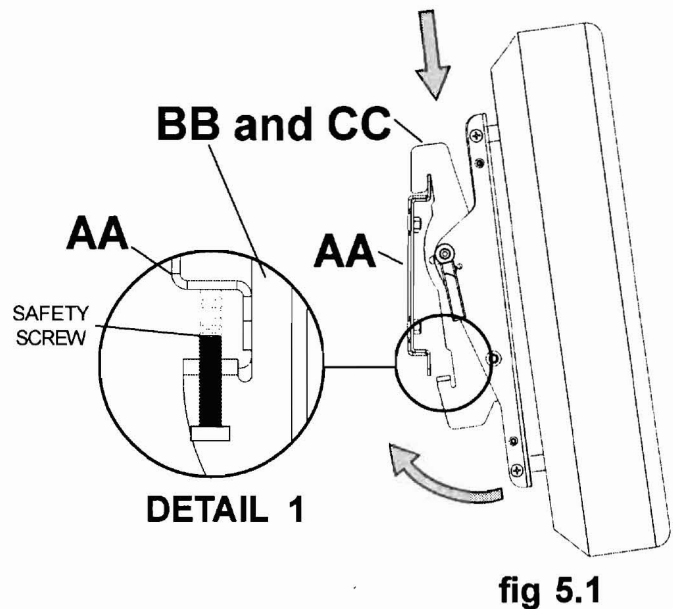
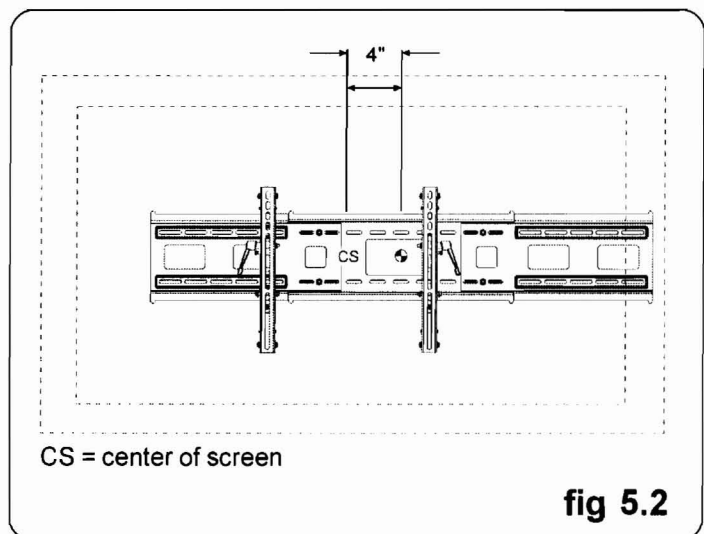

fig 5.1
fig 5.2
Adjust brackets to full back tilt position and tighten. Hook tilt brackets (BB and CC) onto wall plate (AA). Then slowly swing screen in as shown. Turn safety screws, using wrench (II), clockwise till fully tightened down and screw tip securely contacts bottom of the wall plates as shown in detail 1. of figure 5.1. Center of screen can be adjusted horizontally no more than 4" from center of the wall plate configuration, if desired as shown in figure 5.2.